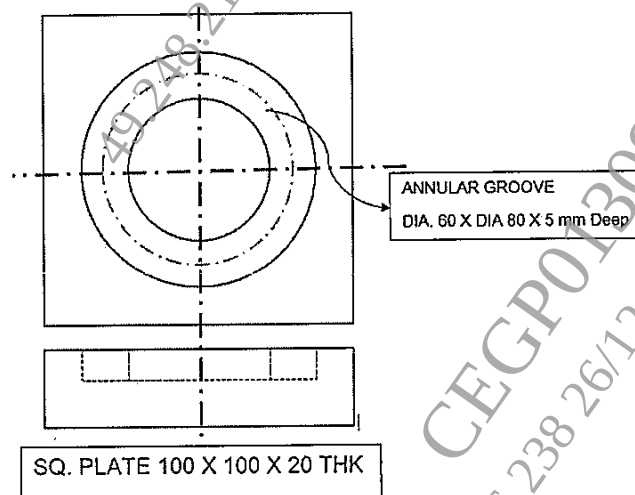

Figure 2. Q. 5(b)
b) Write CNC part programming for machining slot with 8 mm diameter end milling cutter as shown in figure 2 in MS plate of $100\text{mm} \times 100\text{mm} \times 25\text{mm}$ thick plate. Assume suitable cutting data. [12]